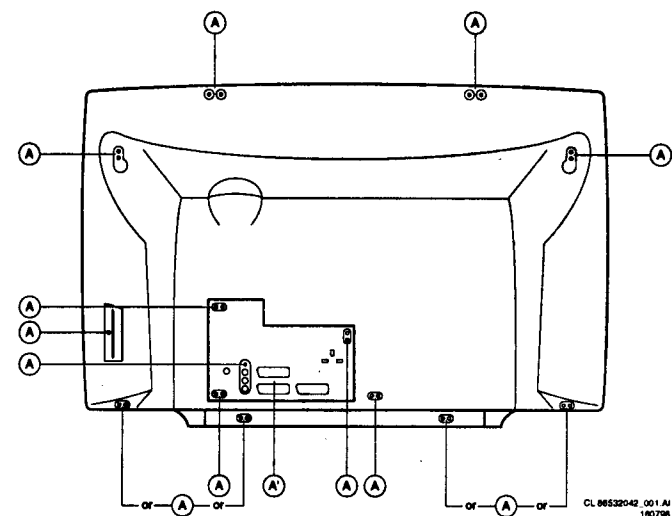

Figure 4-1
1. Remove the fixation screws (A) of the rear cover, notice also the side-I/O-screw; see figure 4.1 (A') screw only valid for 3-scarts configuration.